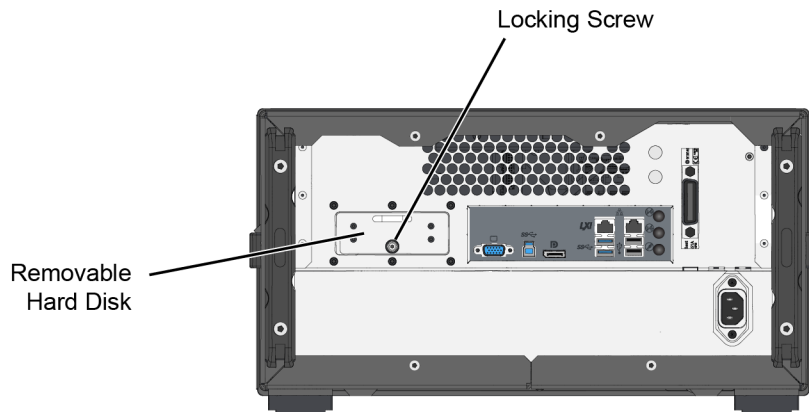

Figure 18. Removable Hard Disk
3. Locate the hard disk on the N1000A's rear panel as shown in **Figure 18**.